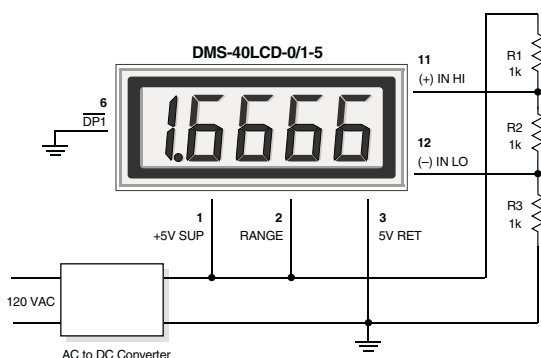

**Figure 3. Differential Input Configuration (5V-Powered Models)**
- 2. Differential Input Configurations:** Differential measurements can be made with either 5V-powered or 9V-powered meters. Figure 3, though not a practical real-world application, uses a voltage divider to demonstrate the concept of a differential input signal. Be careful not to exceed the  $\pm 2V$  common mode voltage limitation for 5V-powered meters.